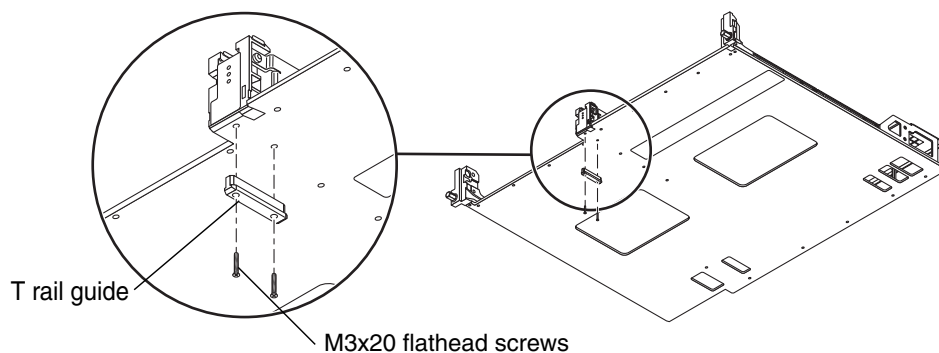

FIGURE 10-3 Removing the T Rail Guide
3. Remove the two (2) M3x20 flathead screws securing the T rail guide of the new carrier plate and discard (FIGURE 10-3).
These items are not needed for this configuration (FIGURE 10-3).